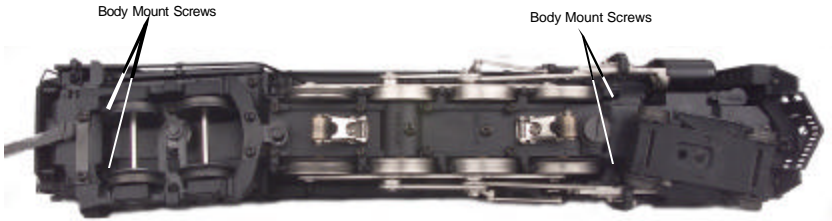

Figure 5: Removing The Body
2. First remove the trailing truck on the chassis by removing the screw shown in Fig. 5. Then remove the four body mount screws to separate the chassis from the boiler.
1. Remove the boiler from its chassis as shown in Fig. 5 on pg. 12.
If you experience poor or no smoke output when the smoke unit is on and has fluid, check the wick to see if it has become hard, blackened, and unabsorbent around the heating element. To remove the smoke unit you will first have to remove the boiler shell (by removing the body mounting screws shown in Fig. 5 on pg. 12).